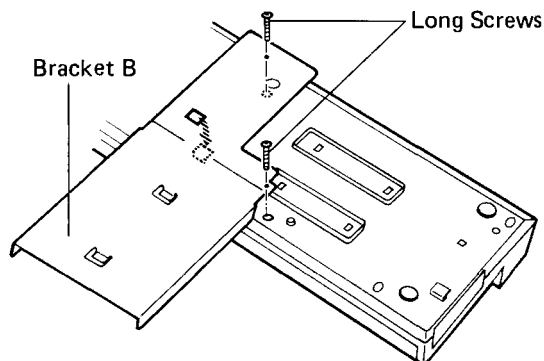

Figure 4. Connecting Metal Support Bracket B to the PC-2 Printer/Plotter/Dual Cassette Interface.
- At the bottom of the PC-2 Printer/Plotter/Dual Cassette Interface, remove screws A and B. Position Metal Support Bracket B so that the Interface clips to the slot of the bracket. To secure the metal bracket, use the long screws included with the package. (See Figure 4.)